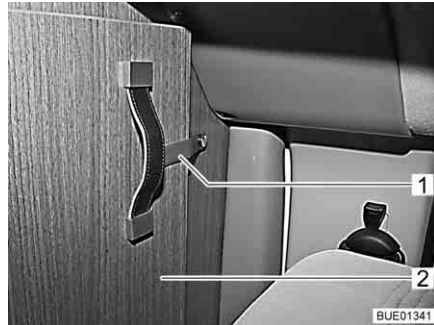

Fig. 48 Securing strap
- Release the securing strap (Fig. 48,1) from the foldable section of the driver's cabin partition (Fig. 48,2).